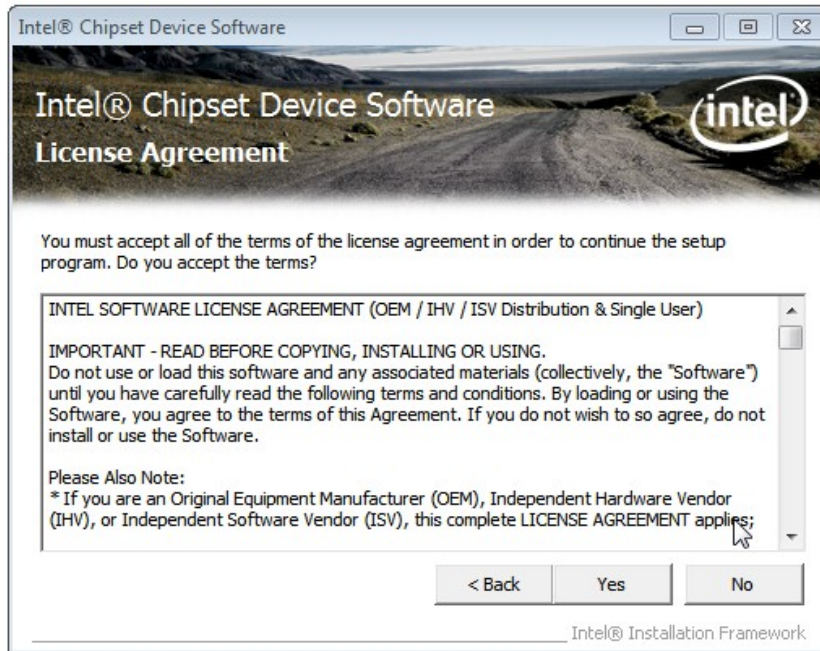

Figure 6-4: Chipset Driver License Agreement
Step 5: The license agreement in **Figure 6-4** appears.